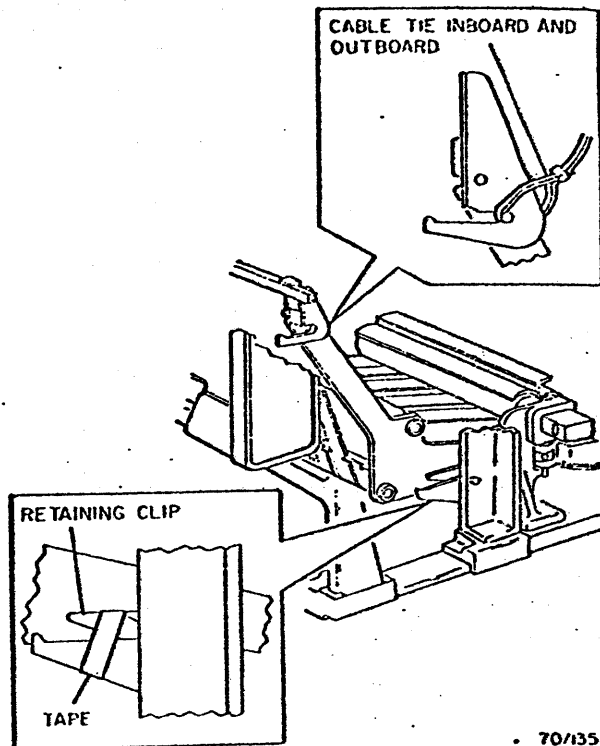

Fig. 2-5. "C" Transport Tie-down Points
7. Remove tape and two cable ties from C transport (Fig. 2-5).